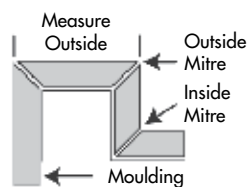

Figure 1.1
3. Also note the placement and size of any doors, windows or openings in the room. It is also recommended that you identify each corner and the angle. (Figure 1.1)